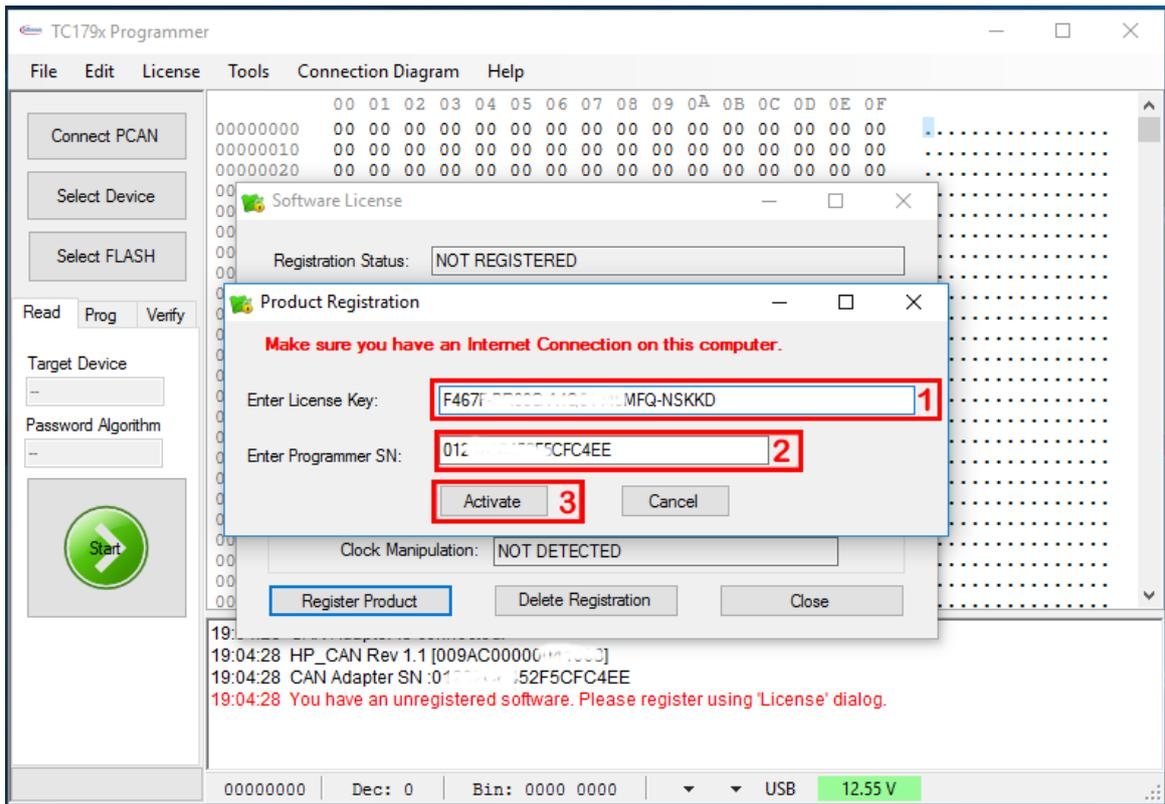

Figure 21 TC179x-Programmer software activation
- Enter the Programmer Serial Number (Figure 21).